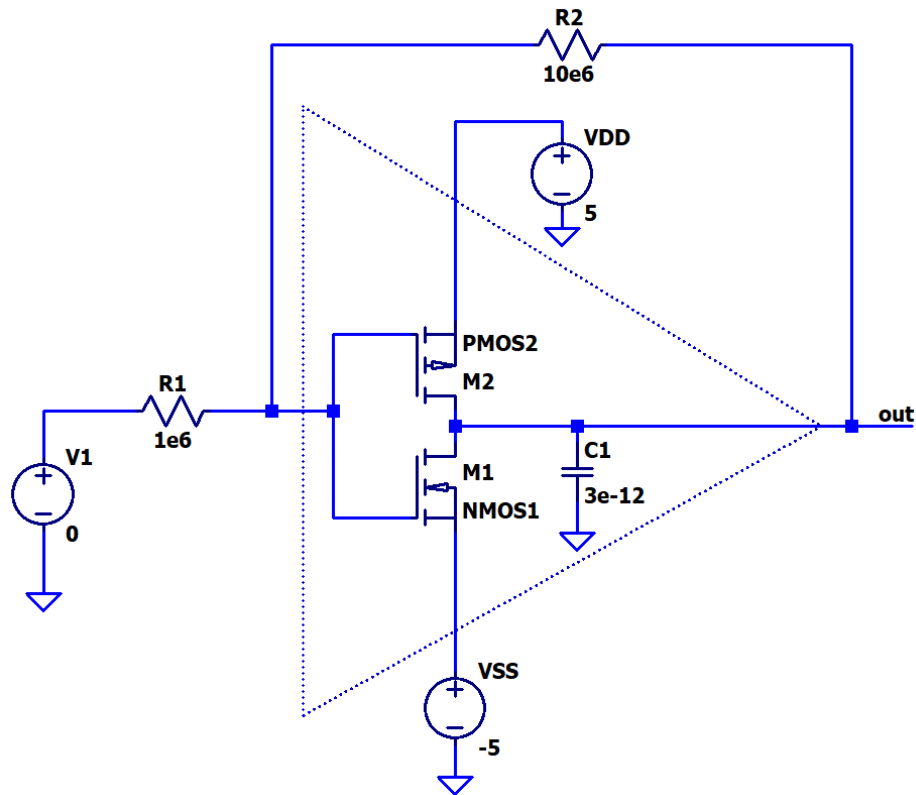

Fig. 5. Linear inverting amplifier using a digital inverter. Note that the triangle is symbolic and not part of the circuit.
- a. Draw the schematic in Fig. 5 and use the PMOS2 model. Do not draw the triangular amplifier symbol; it is not a circuit element.
- b. Generate the voltage transfer characteristic for the amplifier in Fig. 5 by sweeping V1 from -5V to 5V using 1 mV steps.
4. Using the open-loop amplifier's maximum gain determined in step 7, calculate the closed loop gain using the input and feedback resistors in Fig. 5. How does this value compare to the simulated gain of the inverting amplifier from step 7?